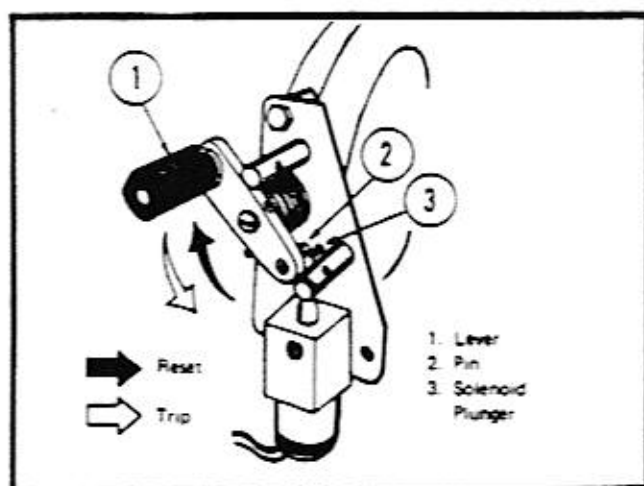

Figure 4-7
1. Engine Shut Down Solenoid (DDA Engines only) – As a safety feature, anytime the drum cover is lifted, and the engine is running, a switch will close and activate a solenoid on the engine air intake system. This shuts off the air supply and the engine shuts down. Each time the solenoid is activated, you must reset the arm on the solenoid assembly by opening the engine access door on the operators platform, reaching inside and moving the lever up. The pin on the lever should "click" into place against the solenoid plunger (which is adjustable). See Figure 4-7.